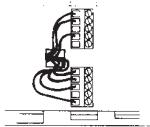

Figure 3A
- Match and connect the labeled wires to the appropriate coded terminal connector on the mounting plate. (See Figure 3A.) Ignore any wires which may be present, but which were not connected to the old thermostat.